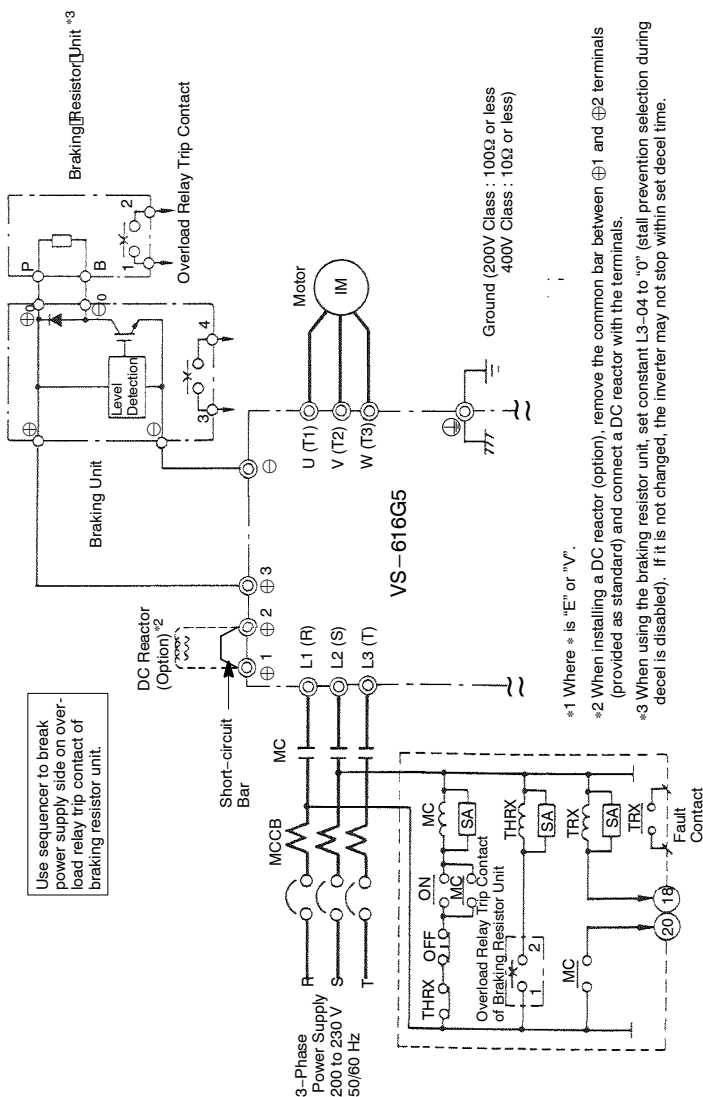

Fig. 15 For Models CIMR-G5*2011 to -G5*2015 (200 V Class 11, 15 kW)
- Connect thermal protector on the braking resistor unit and thermoswitch on the braking unit in parallel. Refer to Figs. 15 and 18 for proper wiring.